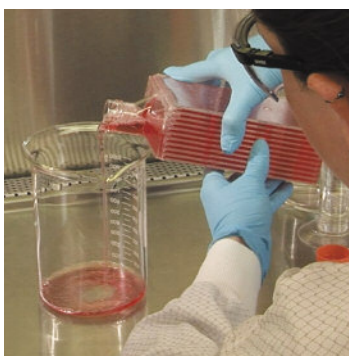

Figure 6. This initial pouring position allows medium to flow over the air dam and reduces foaming.
1. Remove the cap and initially tilt the flask so that the medium is pouring over the air dam into a waste container (Figure 6). This means that the flask is initially being poured upside down with the angled portion of the neck and the bar code surface facing up. While pouring, slowly rotate the flask 180° until the medium is flowing down the angled neck of the flask. Carefully adjust the pouring angle to avoid excessive bubbling and foaming.